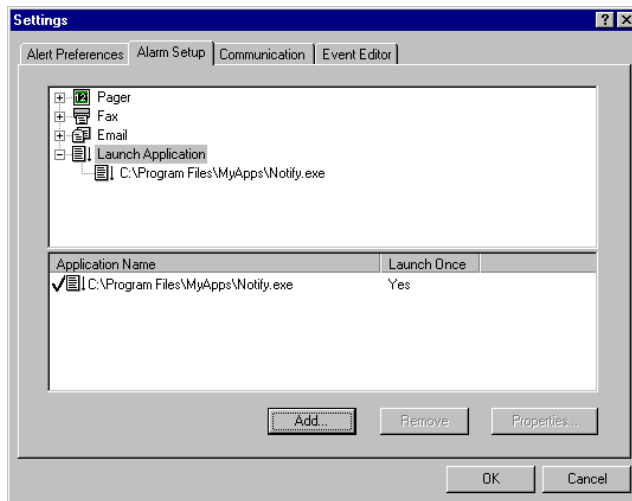

Figure 4-17. Launch Application Alarm Setup
1. Select the Launch Application alarm type in the upper window of the Alarm Setup dialog box (Figure 4-17).
Your new application entry appears in the lower window of the Alarm Setup dialog box. (Refer back to Figure 4-17 for an example.)